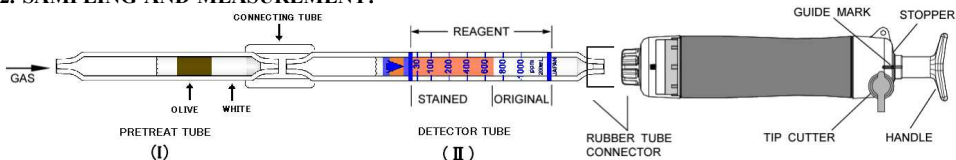

Fig.1
- ① Break both ends of the pretreat tube (I) and detector tube (II), and connect each end of the pretreat tube (I) and detector tube (II) with connecting tube as shown in Fig. 1.
- ② Insert the detector tube (II) into the aspirating pump securely as shown in Fig.1. (Arrow mark shall point to the pump.)
- ③ Align the guide marks on the shaft and stopper of the aspirating pump.
- ④ Pull the pump handle at a full stroke until it locks and wait for 1.5 minutes or until the completion of sampling is confirmed with the flow indicator of the pump (See descriptions about the flow indicator in the instruction manual of the pump).
- ⑤ Push back the handle without removing the detector tube from the rubber tube connector so that air in the pump will be discharged perfectly.
- ⑥ Then repeat the steps ③~④ once more.
- ⑦ On completion of sampling, read the scale at the maximum point of the stained layer.
- ⑧ When the concentration is below the scale range, 4 pump strokes can be used to determine concentrations of 10 to 200 ppm. Then multiply the reading value by 1/3.